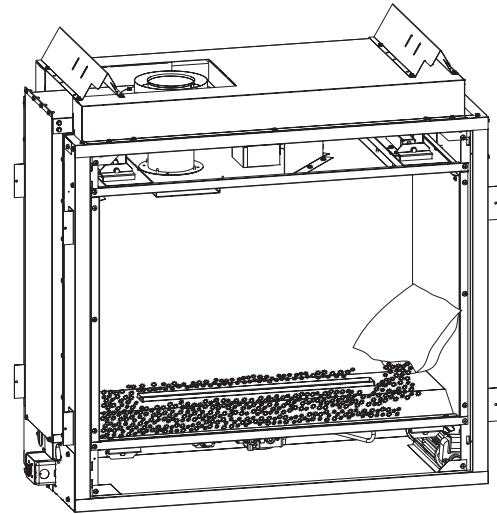

Figure 51
2. To install the Decorative Glass, cut off a corner of the plastic bag to apply the glass to the top shelf on the Loft burner cover. See Figure 50. Apply only enough glass to cover the black metal surfaces. Do not allow the glass to fall around the burner tube. See Figure 51. Apply the remaining decorative glass to the front sloped surfaces of the Top Cover. Start by placing the glass along the front edges of the top cover, then gradually add the glass up the sloped areas until completely covered. Do not allow the glass to fall around the burner tube. See Figure 52.